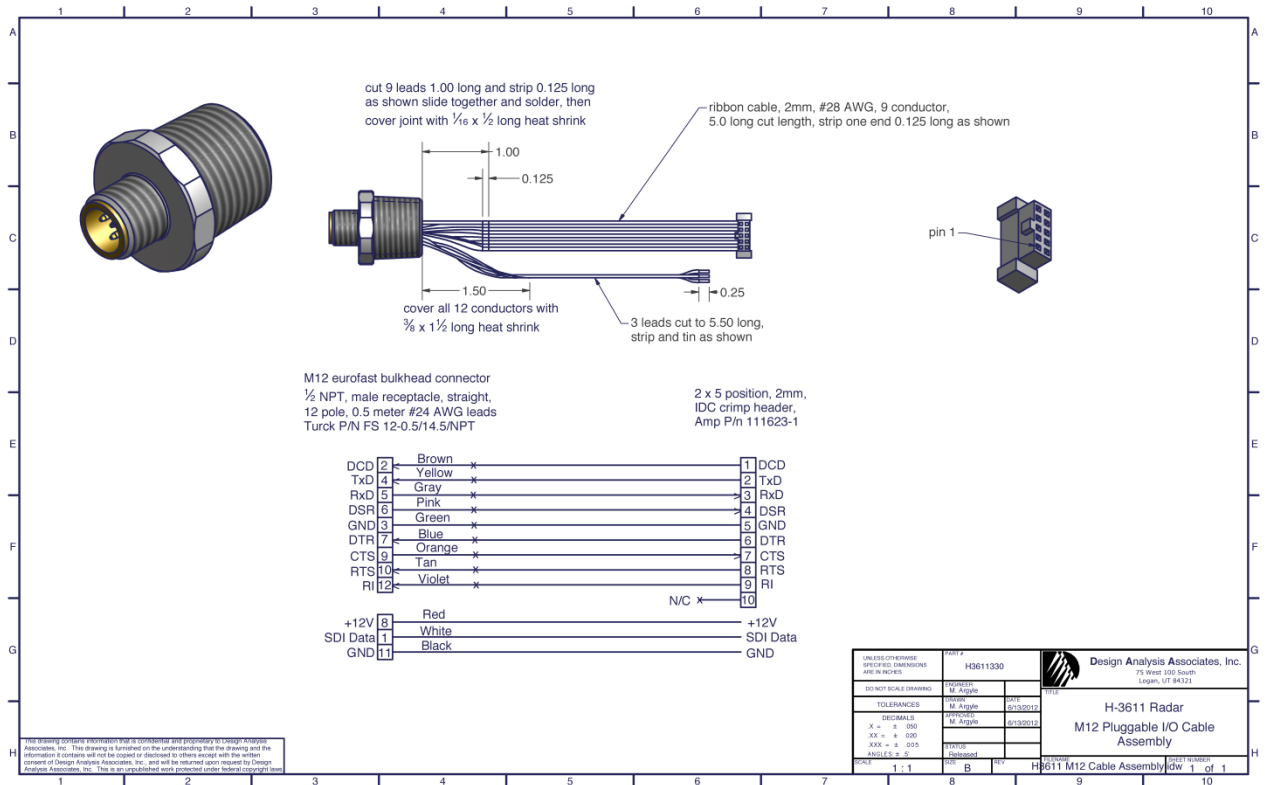

Figure 2-1. Wiring diagram for RS232 and SDI-12 interface.
The WaterLog[®] H3611i sensor has a connector cable that provides two types of input/output interface, SDI-12, and RS232. Figure 2-1 shows the pinned end of the cable that connects to the sensor and provides a wiring diagram that displays how to connect to an RS232 block and SDI-12 bus.
2. Then, connect the sensor to the computer using an RS232 cable, which is wired according to the diagram in fig. 2-1.